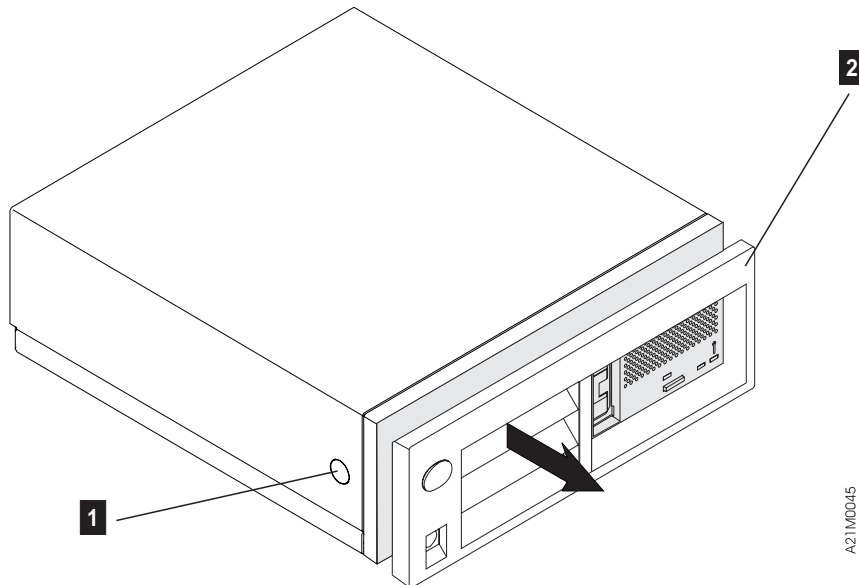

Figure 12. Removing the Front Cover from Model B00
- a. See Figure 12. Remove front cover of the unit **2** by depressing the tabs **1** on each side of the enclosure and carefully pulling the front cover away from the subsystem.
Note: There is a corresponding tab on the opposite side of the chassis to the one show as **1** in Figure 12.